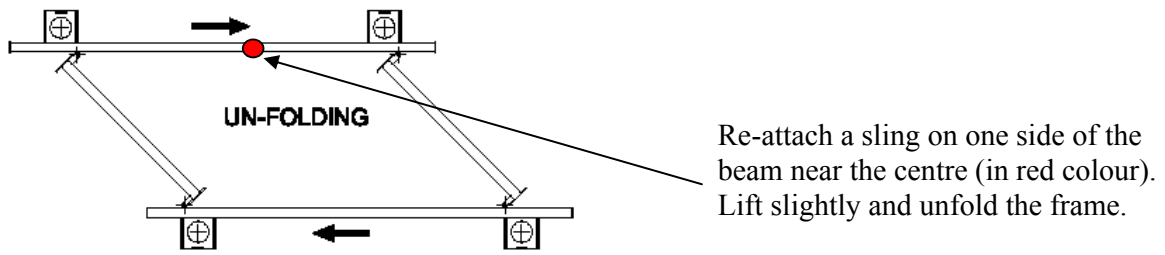

Figure 5 – Slings to be re-attached at the main beam to unfold the frame.
- Re-attach the lifting slings at one end of the main beam to unfold the frame as shown in Figure 5.